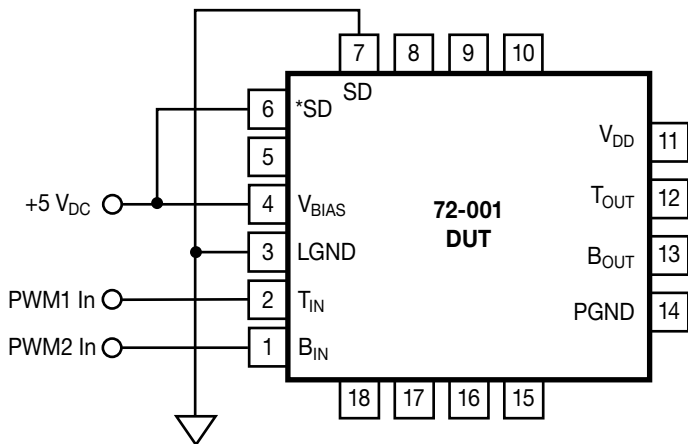

Figure 11. PG Protection Functions Disabled
The 72-001-GAM02 incorporates a Power Good (PG) sensing circuit that disables both the low- and high-side internal gate drivers when the +5 V_{DC} gate drive bias potential (V_{BIAS}) falls below an under-voltage threshold, typically 4.45 V_{DC}, or rises above a potentially-damaging V_{BIAS} over-voltage threshold level – refer to Figure 5 for the proper operational nomenclature and functionality versus the state of the V_{BIAS} power supply. During the time when the V_{BIAS} potential is outside of the pre-set threshold(s), the PG output (Pin 5) pin is logic low ("0"). Alternatively, when the V_{BIAS} potential is within the pre-set thresholds the PG pin is logic high ("1"). The logic condition of the PG pin may be sensed by a rad hard FPGA or Microcontroller/DSP in-order to determine when the power switches in the 72-001-GAM02 may be driven with a pulse-width modulated (PWM) input signal(s) at the B_{IN} and T_{IN} logic inputs. If either the under-voltage and over-voltage indication features are not required or desired, then these functions may be disabled separately by connecting the *SD (Pin 6) pin to V_{BIAS} (pin 4) for the UVLO or the SD pin (Pin 7) to LGND (pin 3) for the 0 V_{DC} indicator, as shown in Figure 11.